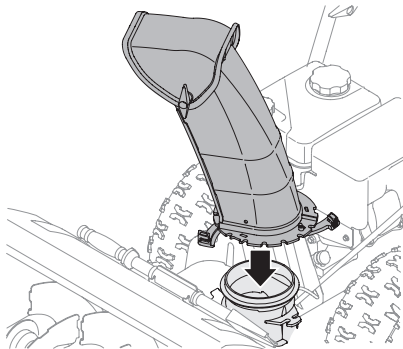

Figure 2-17
1. Position chute assembly over base. See Figure 2-17.